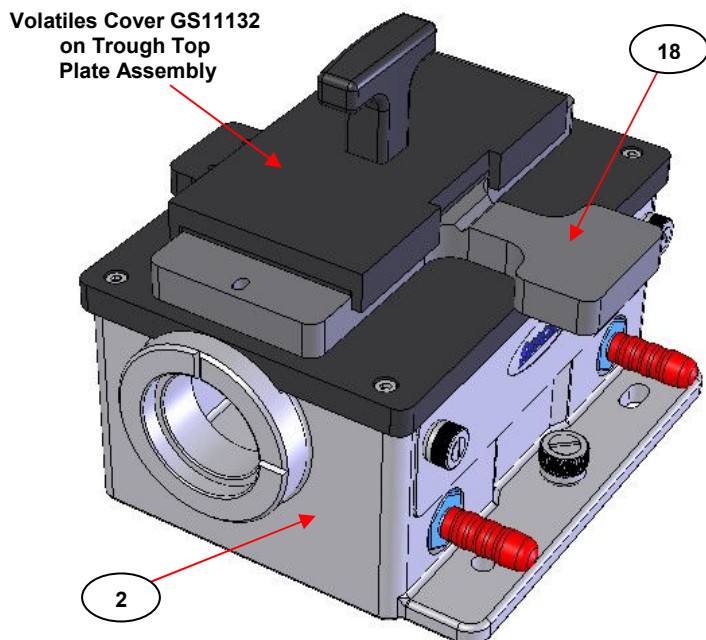

Fig 17. Volatiles Cover for Gateway™ ATR Trough Top Plate Assemblies
If the liquid sample is volatile by nature, Specac recommends use of a volatiles cover (P/N GS11132 – not supplied), to place over the open trough plate area to prevent evaporation of the liquid and to enable an ATR spectral measurement to be obtained. (See **Fig 17.**)
Note: *If the volatiles cover is to be used on any trough (3) top plate assembly then the clamp assembly (1) must be removed from the optical unit (2) as shown in Fig 17.*